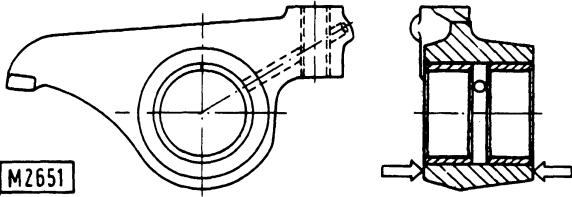

Fig. 23 - Bushing position on rocker arms.
- After installation, the bushings should lie flush with the rocker arm sides as shown in fig. 23.